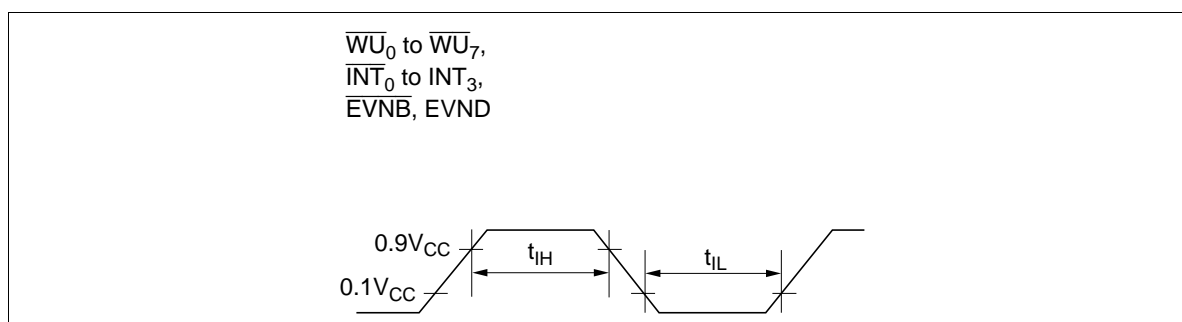

Figure 89 Interrupt Timing
4. Refer to figure 89. The t_{cyc} unit applies when the MCU is in standby or active mode. The t_{subcyc} unit applies when the MCU is in watch or subactive mode.